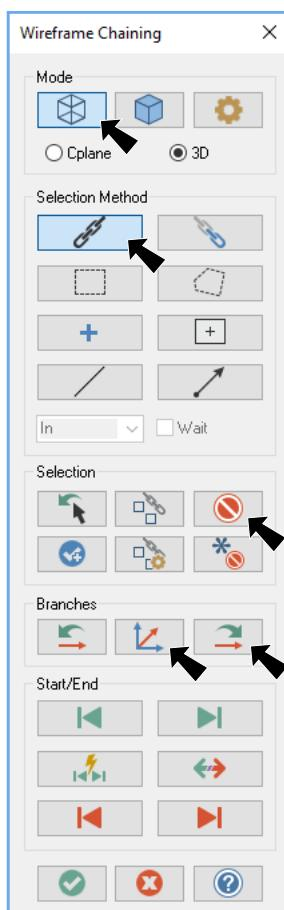
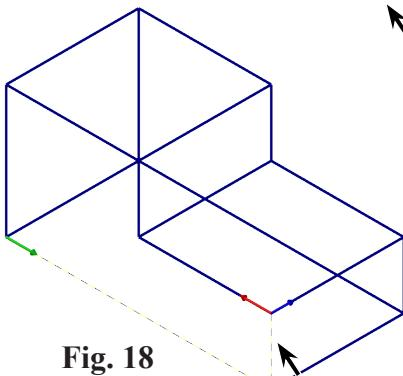

Fig. 15
Fig. 18
Step 3. Click the **Chain**  (C) in the Chaining dialog box, Fig. 15.
to direct chain (red axis) to head up vertical line, Fig. 15 and Fig. 18 and click **Next**